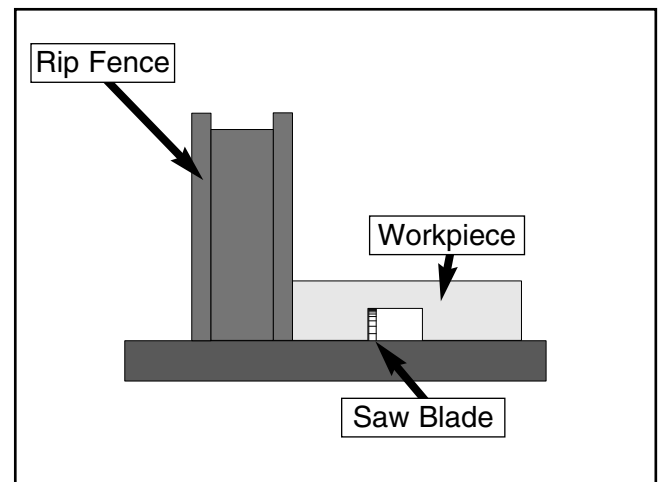

Figure 39. Single-blade dado cut.
3. If the dado runs the length of the material, adjust the fence so the blade is aligned with the inside of your dado channel as shown in **Figure 39**. When cutting across the wood grain, use the miter gauge as a guide while dadoing. **Remember:** never use the fence as a stop in conjunction with your miter gauge.